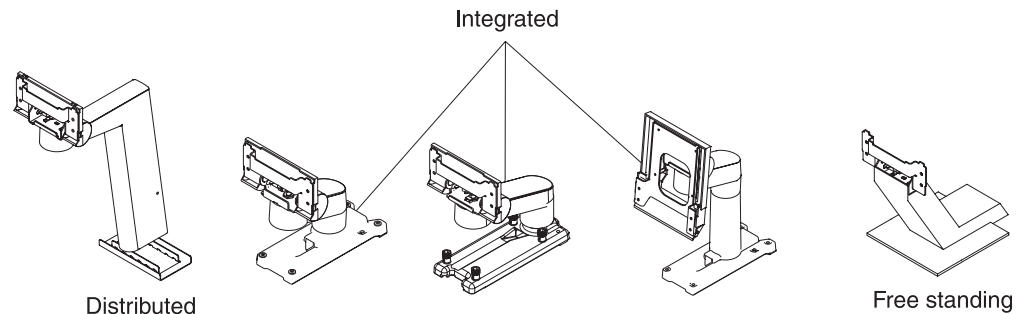

Figure 6. Pedestal types
1. Select the pedestal type and route the cables. Refer to Figure 6 on page 12.